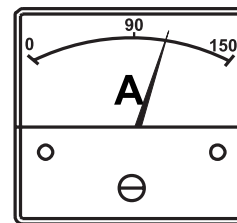

Figure 56. Ammeter (Load)
13. Observe the generator's ammeter (Figure 56) and verify it displays the anticipated amount of current with respect to the load. The ammeter will only display a current reading if a load is in use.